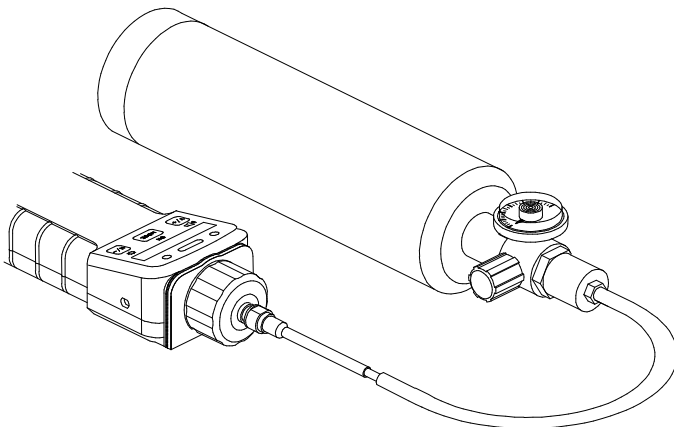

Figure 4.4.1 Set-up of Gas Calibration
The calibration adapter links up the inlet port of the VRAE Monitor to the regulator of the gas bottle (see Figure 4.4.1).
2. If the “fresh” air bottle is available, snap in the calibration adapter over the inlet port of the VRAE Monitor and connect the other end of the tube to the fresh gas bottle, as shown in Fig. 4.4.1. If the “fresh” air bottle is not available, simply leave the monitor in an area free of any detectable vapor.
Snap in the calibration adapter over the gas inlet port of the VRAE Monitor, and connect the tube to the mixed gas bottle as shown in Figure 4.4.1.
This procedure determines the second point of the sensor calibration curve for a single sensor. A bottle of standard reference gas (span gas) is needed to perform this procedure. Table 2.2 shows the standard calibration gases typically used as span gases in the factory. Snap in the calibration adapter over the inlet port of the VRAE monitor, and connect the tube to the regulator of the gas bottle as shown in Figure 4.4.1